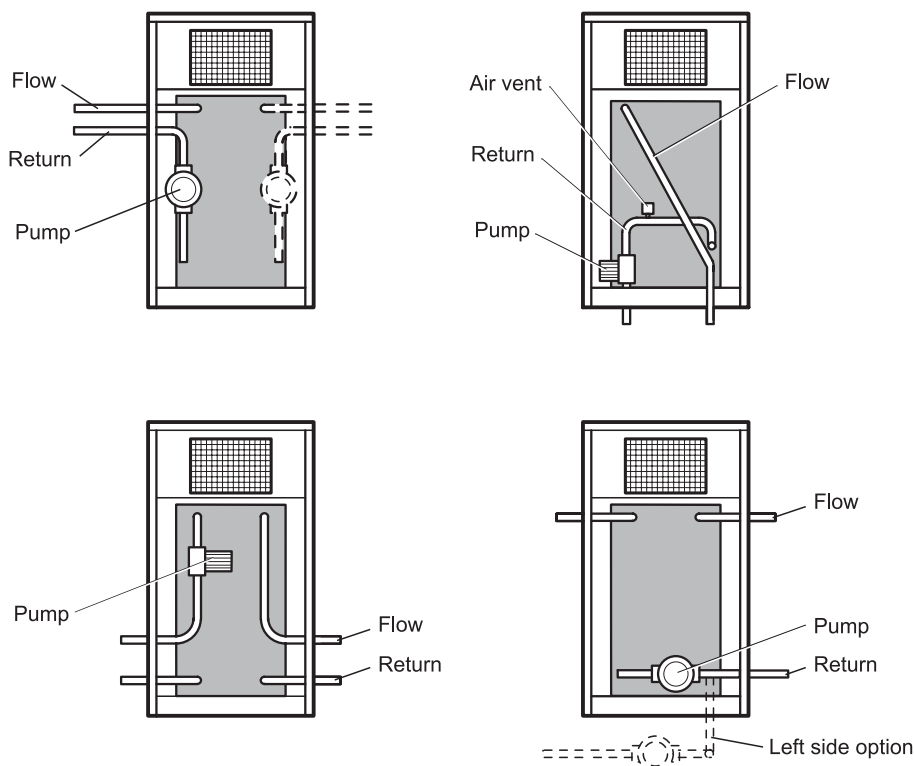
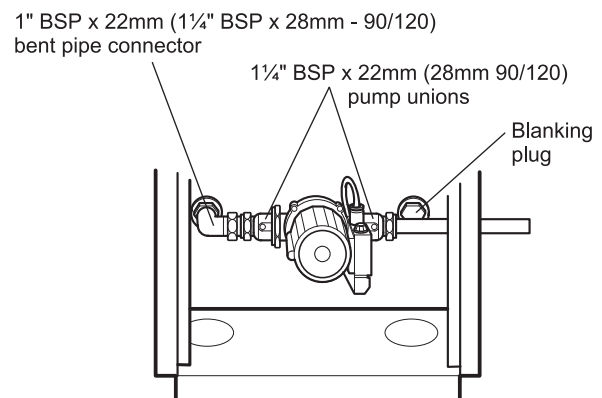

Fig. 14a - 110/140 Water connections
Fig. 15a - Rear of boiler
- 7 Connect the pump to one of the bottom tappings (as required) on the back of the boiler using the two pump unions and the other bent pipe connector supplied. Seal the other return tapping with the blanking plug supplied with the boiler. See Fig. 15a.
See Figs 15a, 15b, and 15c
- 9 If required, fit the circulating pump to one of the four tappings on the back of the boiler (see Fig. 14a). Two 1¼" x 28 mm pump unions, two 1" BSP bushes and two 1" BSP x 28 mm elbows are supplied. Seal any unused tappings with the 1¼" BSP plugs supplied (see Fig. 15a).